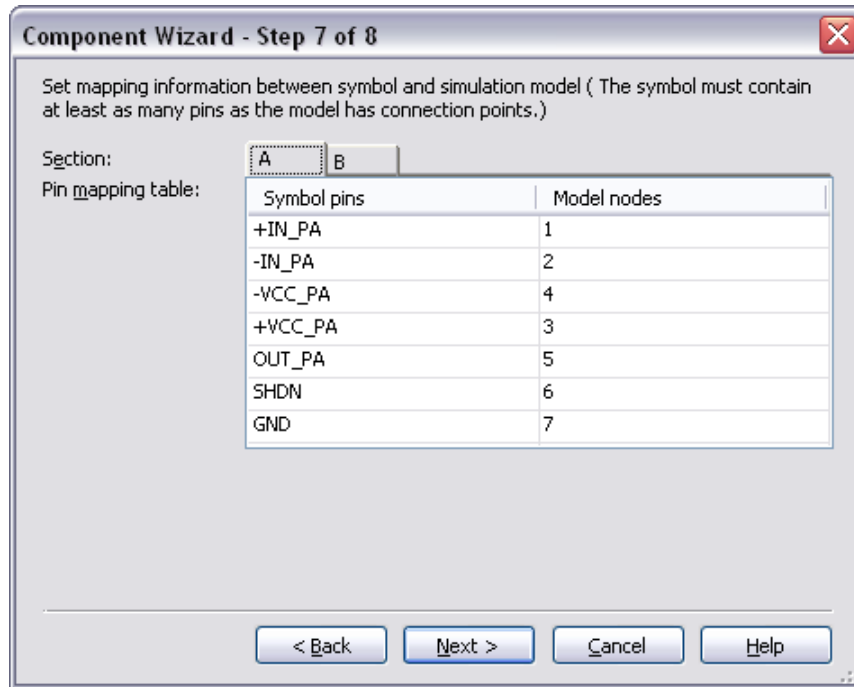

Figure 11. Section A pin mapping table.
1. Complete the pin mapping table for the pre-amplifier (section A) as shown in Figure 11. You must select the **Model nodes** based on the order in which they appear in the SUBCKT line.